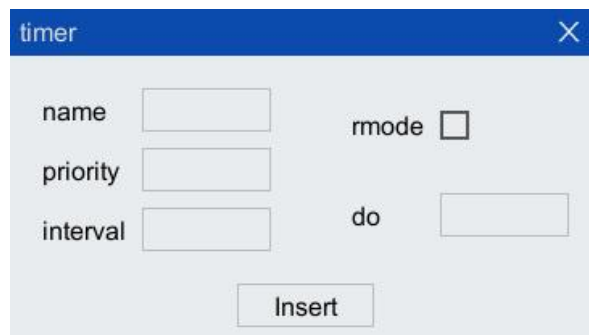

Figure 5-35 "Timer" instruction configuration interface
- Step1. Click "Insert Cmd> Interrupt Trigger> timer" option in the toolbar of the program editor to pop up "timer" instruction interface, as shown in Figure 5-35.